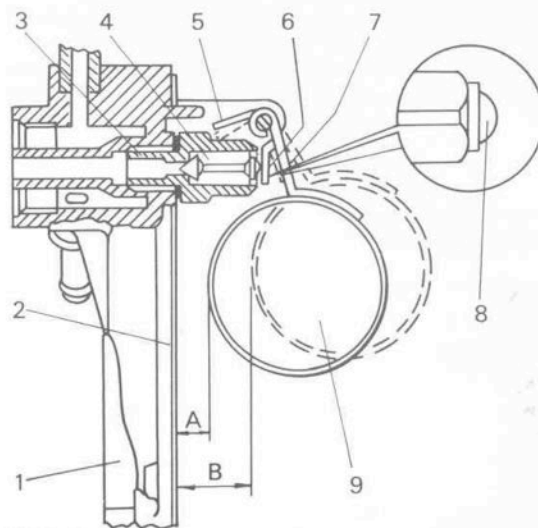

FIG 2:7 Section through float and needle valve in fuel level checking position
Fit a new gasket when reassembling the cover to the body. Refit the carburettor on new gaskets (see 10 and 12 in FIG 2:8), and recouple the choke and accelerator controls, clamping the inner and outer choke cables in
**Key to Fig 2:7** 1 Cover 2 Gasket 3 Needle valve seating 4 Needle valve 5 Lug 6 Tongue 7 Float arm 8 Moveable ball on end of valve 9 Float A .315 inch (8 mm) B .630 inch (16 mm)